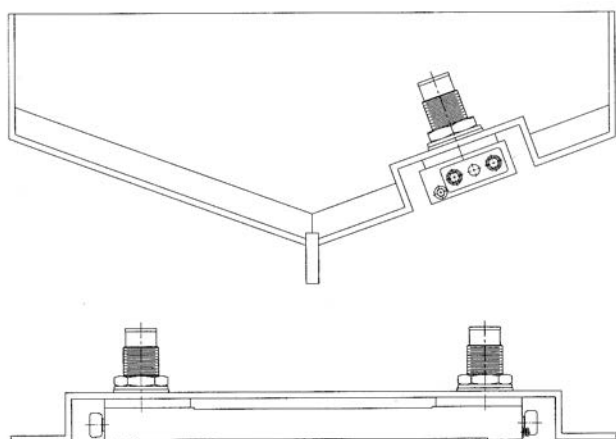

FIG. 2 *Recess type installation with E1 OPTION end-mounted zinc anodes for reduced drag in high-speed craft.*
- 1.7.3 High speed applications and others that use E1 OPTION™ coolers should take into consideration the removal and replacement of zinc electrodes when sizing the length of a recess. See Figure 2.